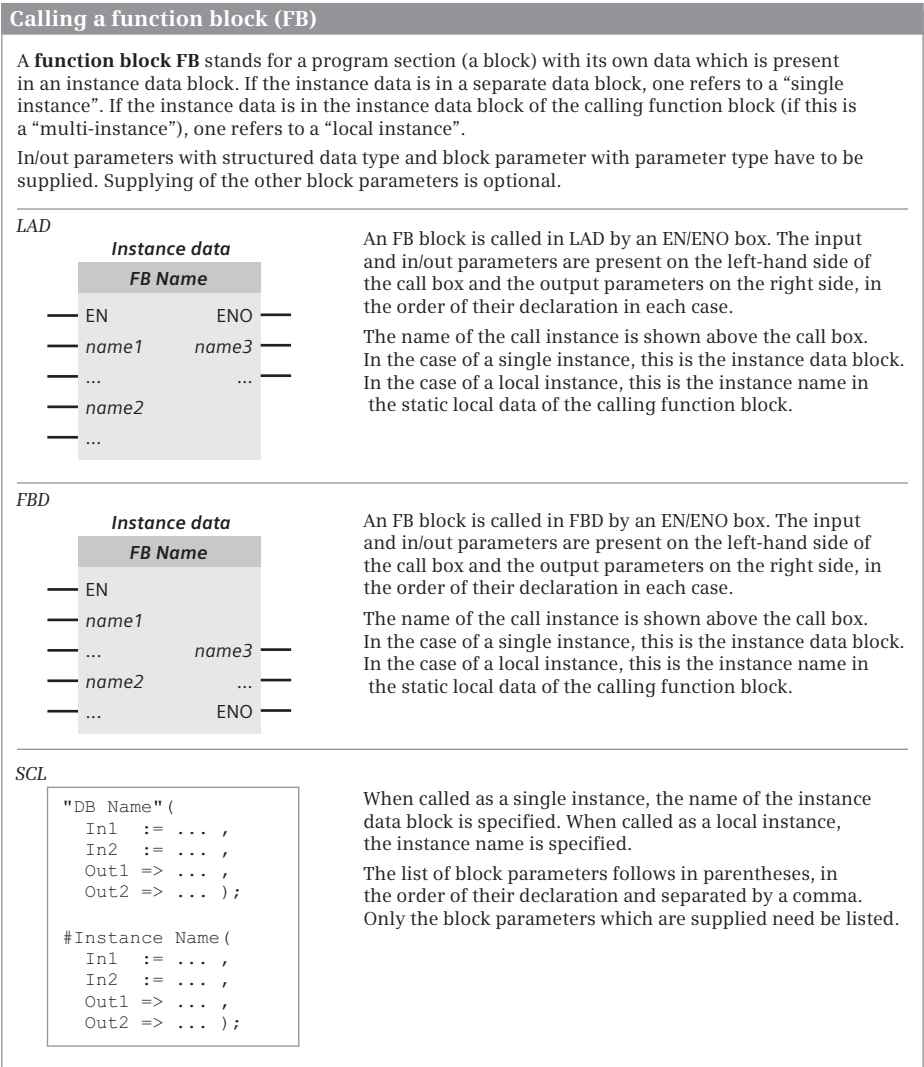

Fig. 12.7 Calling a function block
12.3.3 Calling a function block (FB)
Calling a function block (FB) is depicted in LAD and FBD with the call box. In SCL, it is depicted with the instance name and the parameter list (Fig. 12.7).